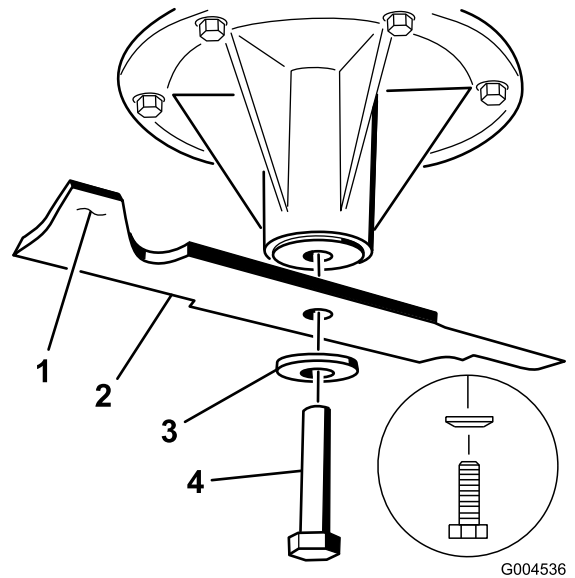

Figure 90
1. Install the blade onto the spindle shaft (Figure 90).
2. Install the spring disk and blade bolt (Figure 90).
Note: The spring-disk cone must be installed toward the bolt head (Figure 90).